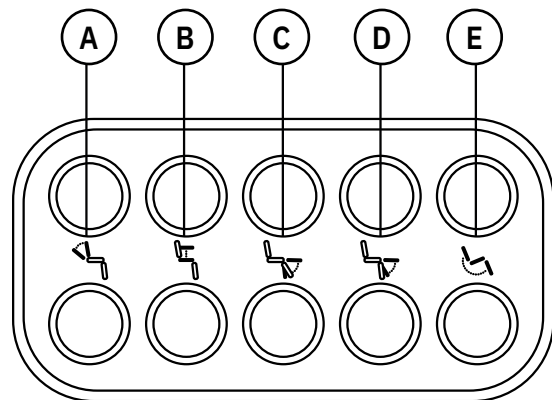

Figure 5.16. LiNX keypad.
The LiNX keypad can be used to adjust the electric back rest mechanism (A), electric height adjustment (B) a centre-mounted electric leg support (C), a length compensatory leg support (D) and electric seat tilt (E), see Figure 5.16. The LiNX keypad is located between the control unit and the armrest.